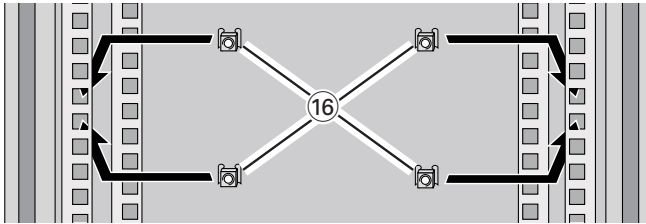

Fig. 11
- Fit the four prestole nuts (16) accurately into the frame of the cabinet (Fig. 11).